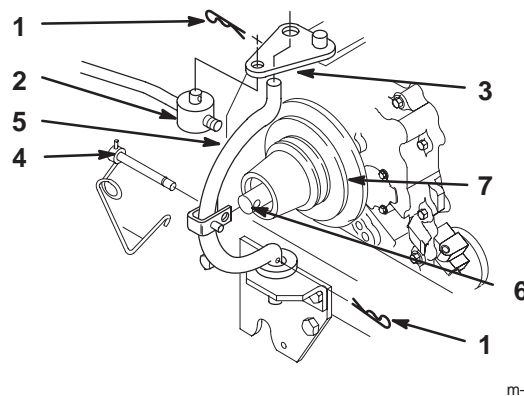

Figure 32
4. Unlatch and remove locking clevis pin that secures yoke assembly to clutch shaft. Pivot yoke out and forward to remove from clutch shaft and engagement plate (Fig. 32).
5. Replace belt in inside pulley groove (Fig. 32).
6. Assemble yoke and engagement plate and attach locking clevis pin, trunnion and hairpin coppers to secure (Fig. 32).